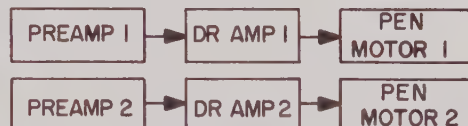

Fig. 4-3, Step 1:
If the full sweep cannot be achieved on either channel, place checks in the "?" blocks opposite ALL six modules. Turn the Power Switch OFF. Open the rear of the "Meterite" (Figure 4-3) and check the fuses in the rear of each Driver Amplifier. Replace if blown, close the cabinet and repeat step 1. If no fuse replacement is necessary take step 2.
1. Fuses: Re-check the fuses in the rear of each Driver Amplifier (See Figure 4-3).
2. Check the fuse in the Driver Amplifier which is in trouble (Figure 4-3).
4. Plug the preamplifier into the Driver and arrange these units in a suitable air stream. Figure 4-7 shows the use of the cooling fan on the "Meterite" if no other fan or blower is available. Plug the pen motor cable into the rear of the Driver. When using the "Meterite" during these tests, be sure to remove the fuse at the rear of the remaining Driver Amplifier. (See Figure 4-3.) This prevents the energizing of this channel without available forced air.